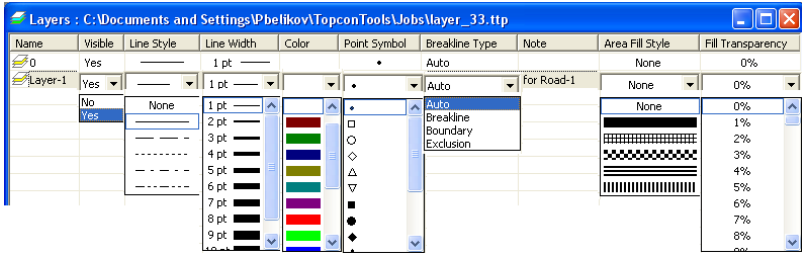

Figure 5-78. Editing Layer in the Layer View
Edit a Layer using the Layers View (Figure 5-78 on page 5-59):
- Highlight and click any (except *Name*) cell in the *Layers* view, select and edit the desired parameters (Figure 5-78).